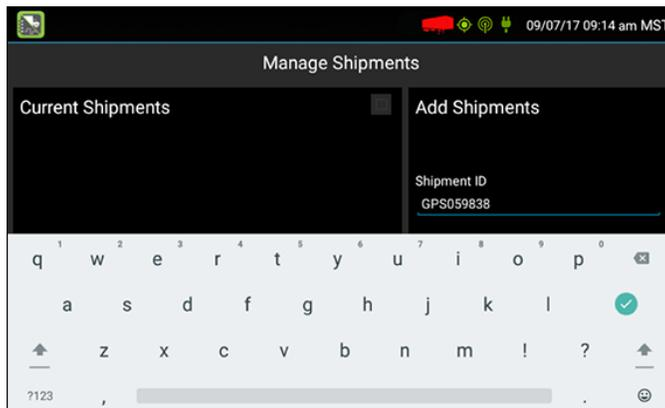

Figure 10: You add a resource on the right side of the Manage Shipments screen.
1. On the Manage Shipments screen, enter the shipment ID in the Shipment ID field on the right, as shown in Figure 10.